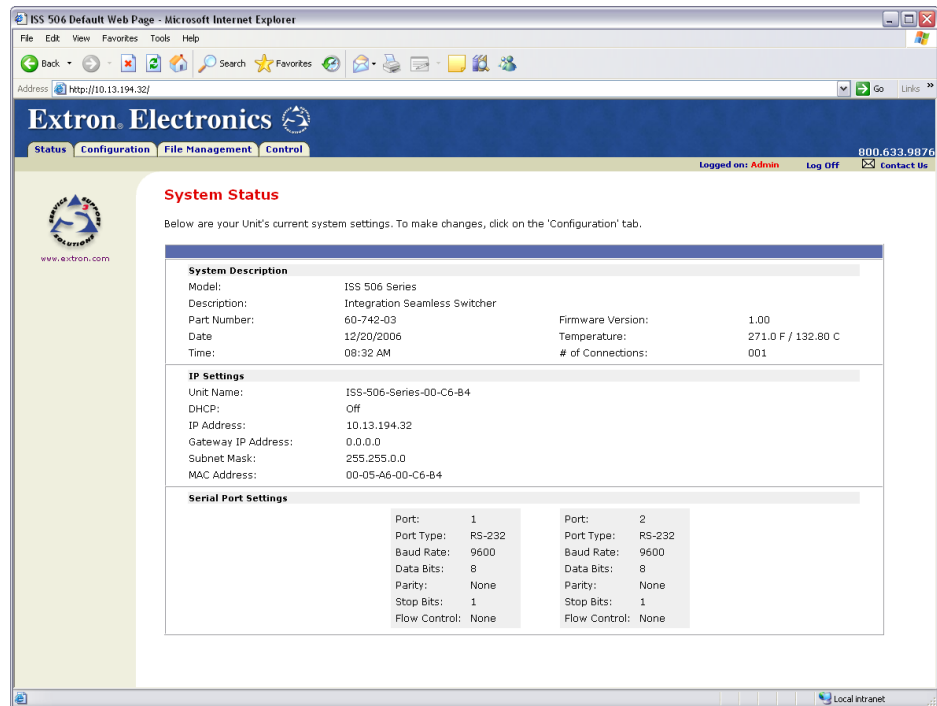

Figure 6-2 — System Status page
- **If neither of the above conditions is true**, the switcher downloads the factory-installed default startup page, "nortxe_index.html" (figure 6-2), also known as the System Status page.
The System Status page (figure 6-2) provides an overall view of the status of the seamless switcher, including individual voltages, and serial port status (if applicable). The System Status page is the default page that the switcher downloads when you connect to the switcher. Access the System Status page from other pages by clicking the *Status* tab.